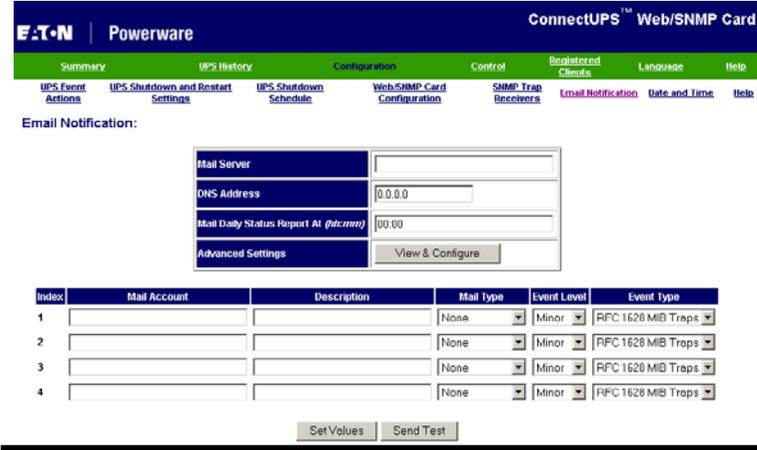

Figure 7. Email Notification Configuration Screen
2. Become the Superuser and then enter the IP address or Hostname of the SMTP **Mail Server** that will be used to send the e-mail messages (see Figure 7).